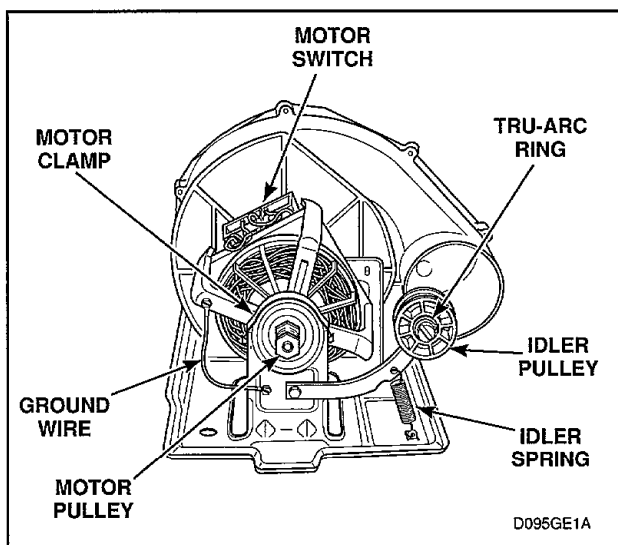

Figure 34
Refer to *Figure 34* for motor and idler pulley removal.
- (2) Disconnect ground wire from motor, *Figure 34*.
- (3) Use a screwdriver and pry two motor clamps off motor mounting bracket, *Figure 34*. Then lift motor out of mounting bracket.
NOTE: When replacing motor, motor switch location should be at 10 o'clock position (viewed from pulley end, *Figure 34*) with the anti-rotating notch (located on the front and rear cradles) on the motor mounting bracket.